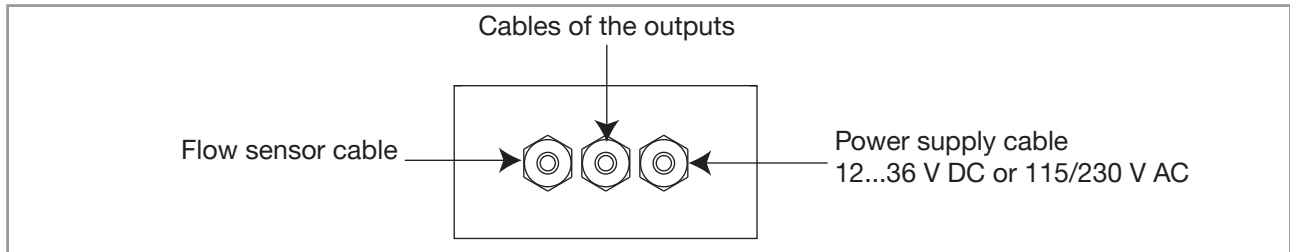

Figure 12: Using the cable glands
- Insert each cable through a nut than through the cable gland, using the cable glands as shown in Figure 12.